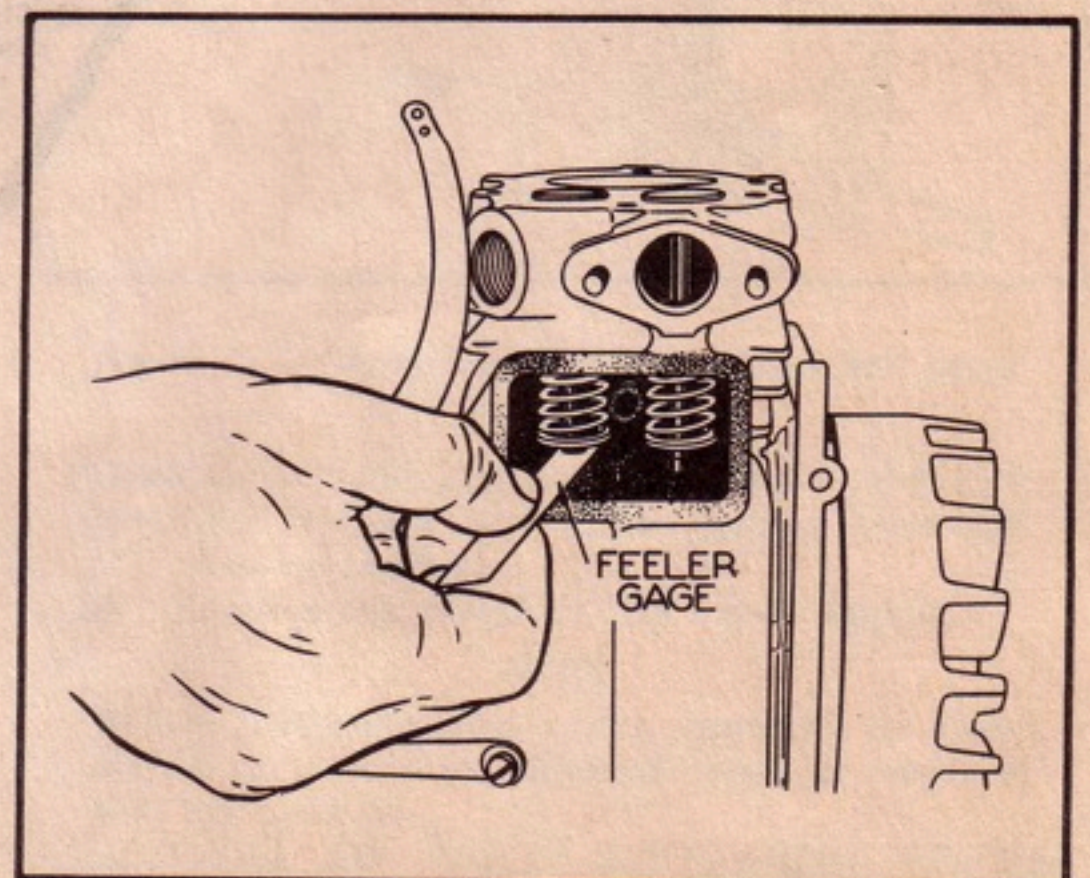

Figure B-28. Measuring Tappet Clearance With Feeler Gage
(1) Valves are set at the factory to provide an operating clearance between the end of the push rod and the valve stem of .008" intake and .012" exhaust. If the engine is operated under extremely dusty conditions, wear on the valve seats will sometimes reduce the clearance to a point where valve life will be shortened.
(2) To check tappet clearance, remove the tappet case and breather cover and measure the tappet clearance with a feeler gage. (See figure B-28.) When taking this measurement, make certain the tappet is at its widest position by rotating the engine until the tappet rests on the heel of the cam.
(3) If the clearance is too wide, it indicates that the valves are slightly warped or that the valve seats and valve faces are heavily oxidized, holding the valves slightly off their seats.
(4) If the clearance is too close, it indicates that considerable wear has taken place at the valve seat and allowed the valve to drop.
(5) In either case, it will be necessary to remove the